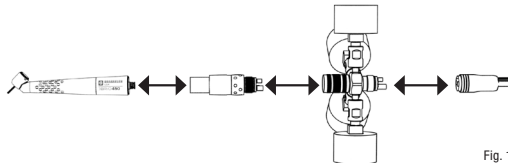

Fig. 1
1. Insert the test multi-gauge manometer between the handpiece/coupler and delivery system tubing. (Fig. 1).